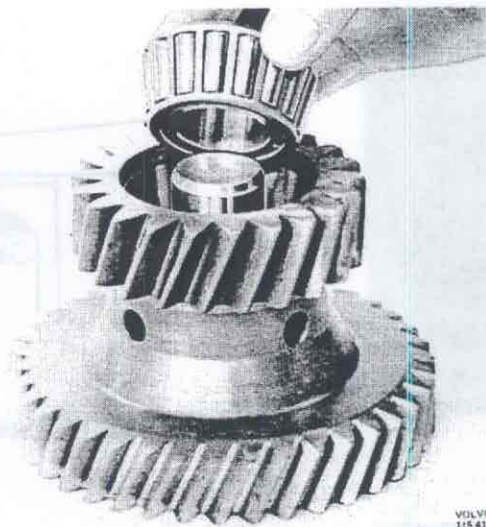

Fig. 43-171. Fitting bearing
7. Fit the intermediate gear and the small bearing, Fig. 43-171.